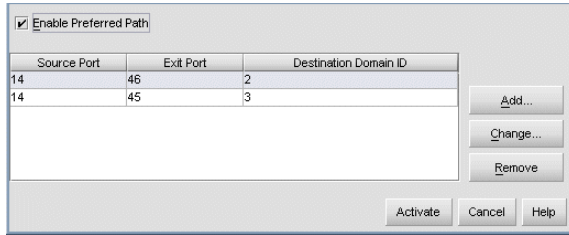

Figure 66 Configure Preferred Paths dialog box
1. Select **Configure > Preferred Path**. The Configure Preferred Paths dialog box appears as shown in Figure 66. The Configure Preferred Paths dialog box provides the configuration for a single switch's preferred path.
1. Select **Configure > Preferred Path**. The Configure Preferred Paths dialog box appears as shown in Figure 66.